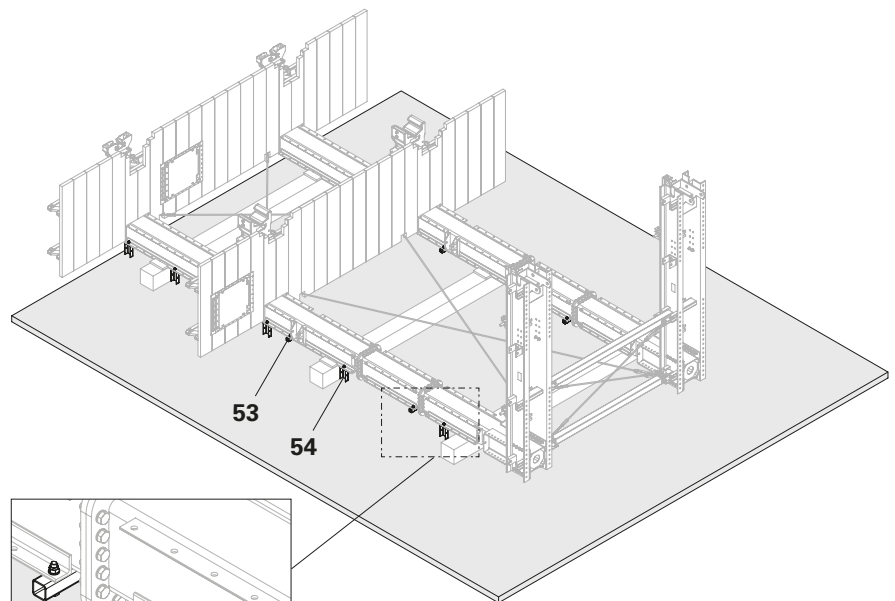

Fig. B6.01
2. Bolt the Ladder Cage Connection VT 20 ACS (**54**) at the installation position with the fixing materials provided. (Fig. B6.01)